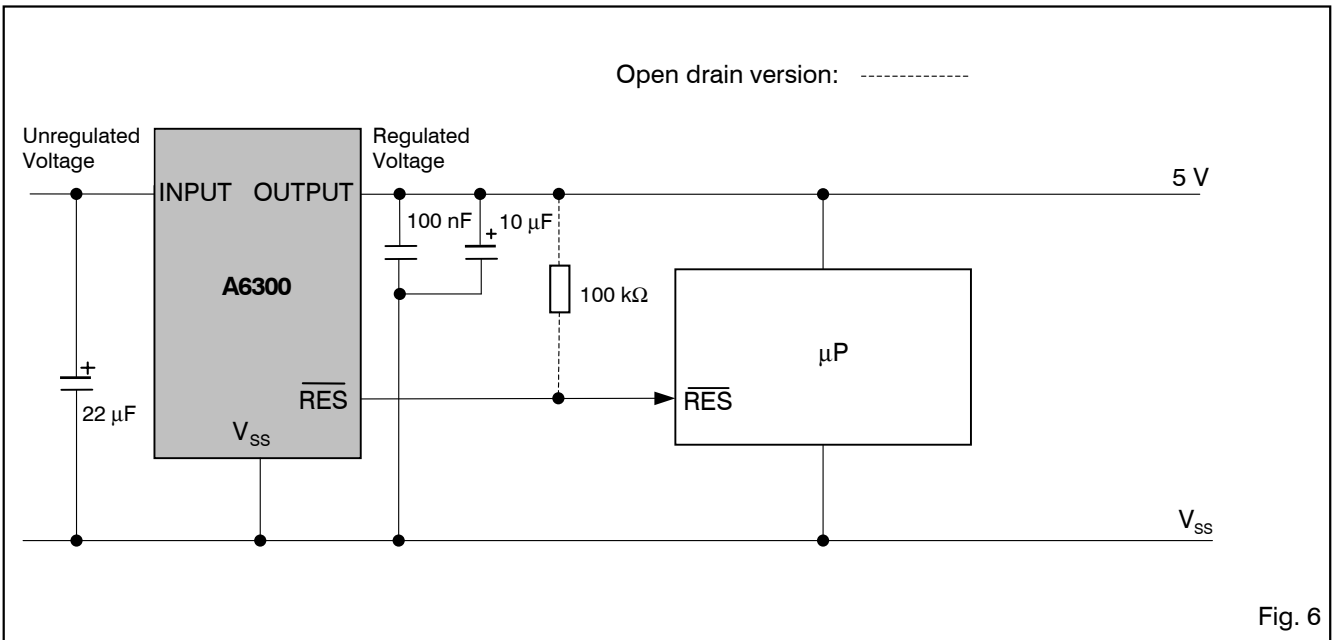

Fig. 6
- 2) Full operation guaranteed. To achieve the load regulation specified in Table 3 a 22  $\mu$ F capacitor or greater is required on the INPUT, see Fig. 6. The 22  $\mu$ F must have an effective resistance  $\leq 5 \Omega$  and a resonant frequency above 500 kHz.